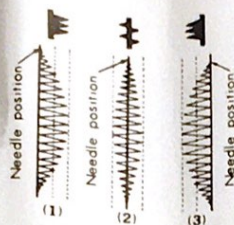

Fig. 41
- In figure 41-(1), the needle zigzags toward the right only starting from the left position. (Fig. 41)
- In figure 41-(2), the needle zigzags toward both right and left starting from the central position.
- In figure 41-(3), the needle zigzags toward the left only starting from the right position.